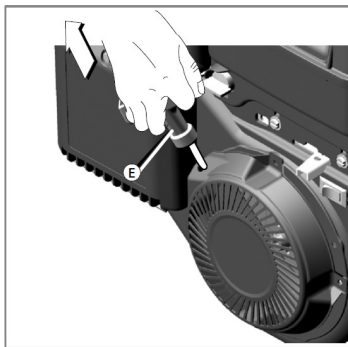

Figure 10
4. Start the motor of the Verti-Top Pulled (Figure 10).